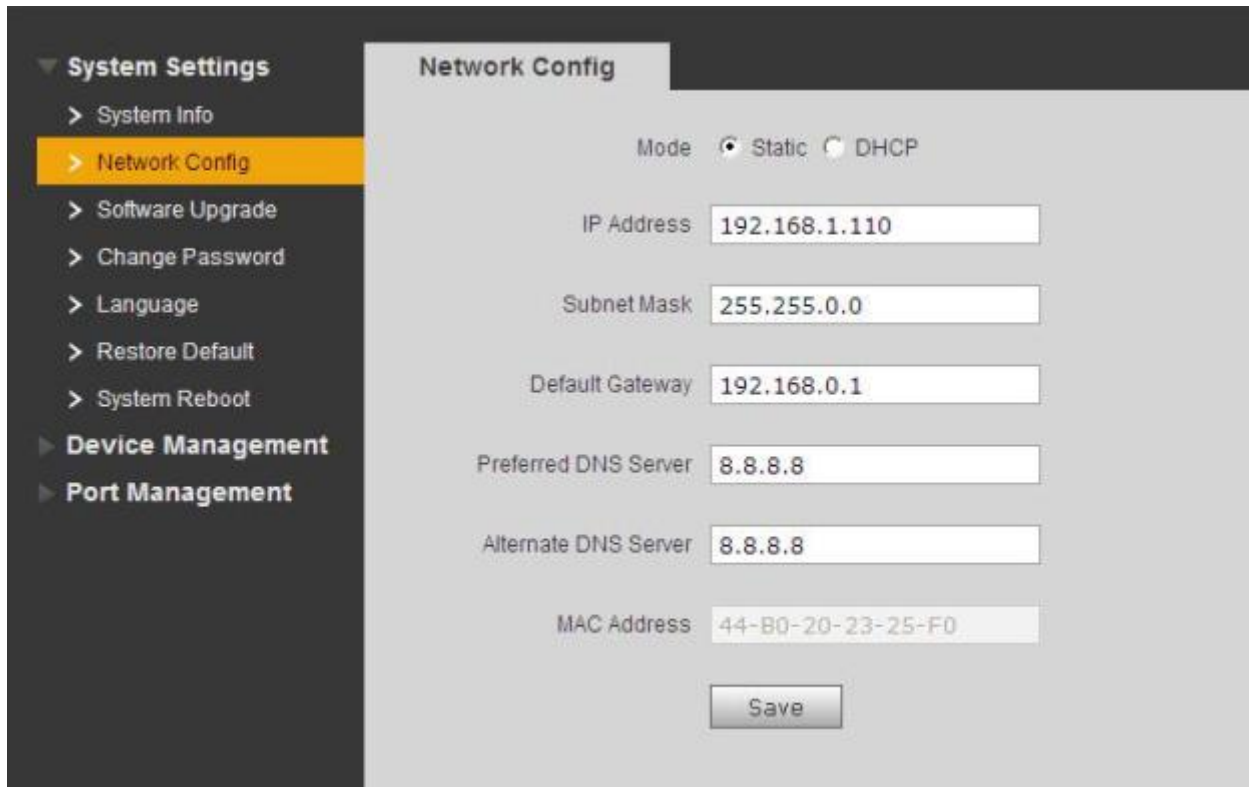

Figure 3- 4
Step 1. Select System Settings>Network Config, see Figure 3- 4.